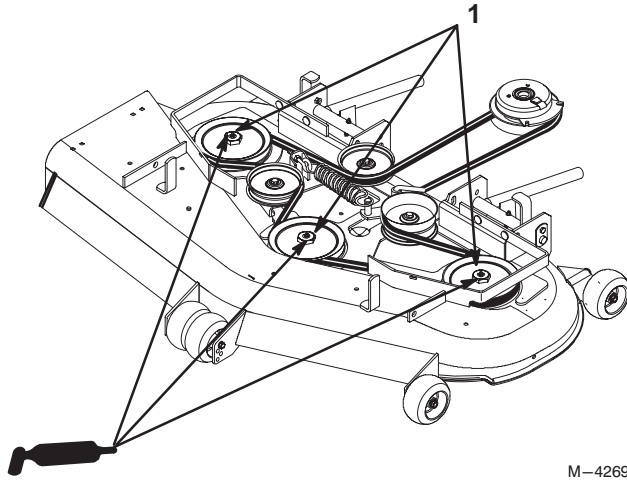

Figure 10
1. Grease the fittings on the three spindle bearings. Grease until it comes out lower seals (Fig. 10).